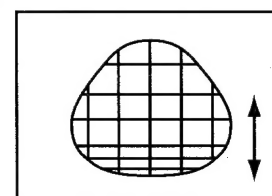

Fig.4
- Adjust the vertical symmetry to obtain symmetrical scanning between upper and lower picture (fig. 4).